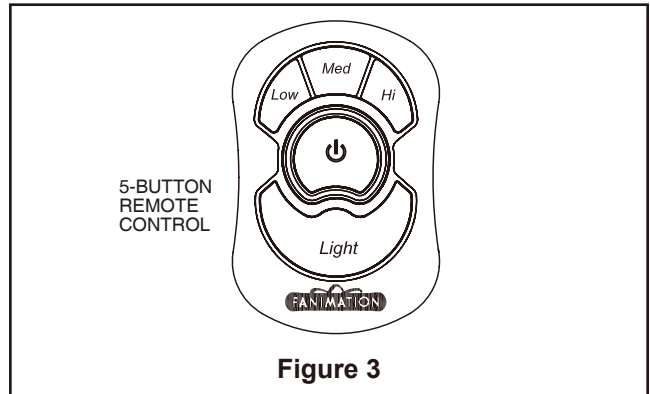

Figure 3
3. The 5-button hand-held remote transmitter includes buttons for high, medium and low fan speeds as well as buttons for fan off and light on/off. Infinite light levels are available by holding the light on/off button (Figure 3).